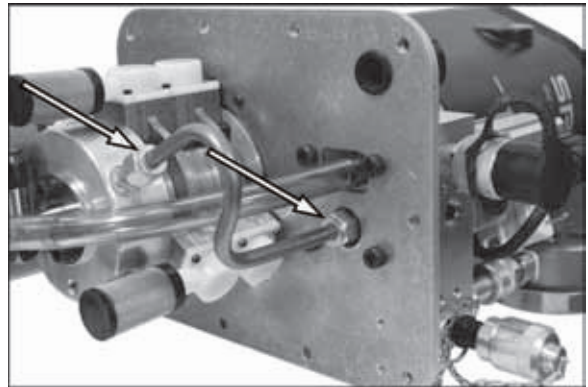

Figure 62.
6. See Figure 62. Loosen the two compression fittings and remove the high pressure tube.